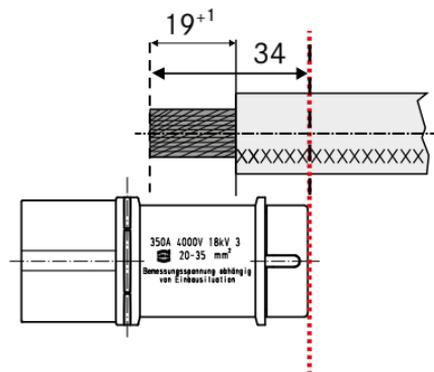

Figure IV-7: Use of the cable marking for cable termination
- ① Strip the *stranded wire* in accordance with the specified information (refer Table IV-2, p. 32-35) and do not twist the stripped ends.
- ② Make sure that the tapered screw in the contact is completely in the loosened position.
- ③ Push *stranded wire* all the way into the contact chamber and hold it firmly.
*If necessary, work with cable marking, as in Figure IV-7, p. 40.*
- ④ Tighten the hexagon socket screw of the mating side using the proper torque wrench. The maximum *tightening torque*, according to Table IV-2, p. 32-35, depends on the wire gauge.
- ⑤ Avoid torsional stress and excessive bending of the *stranded wire* at the termination point!
Figure IV-7 illustrates this process using the example of the Han® HC Modular 350 contact. The marking and the upper edge of the insert are at the same level (as indicated by the red line).